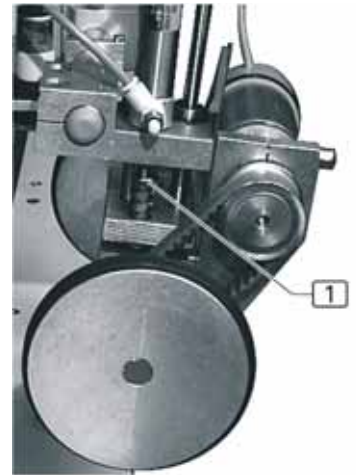

fig. 41
1. **fig. 41:** To adjust the play, loosen the locknut of collar screw 1 and adjust the collar screw.